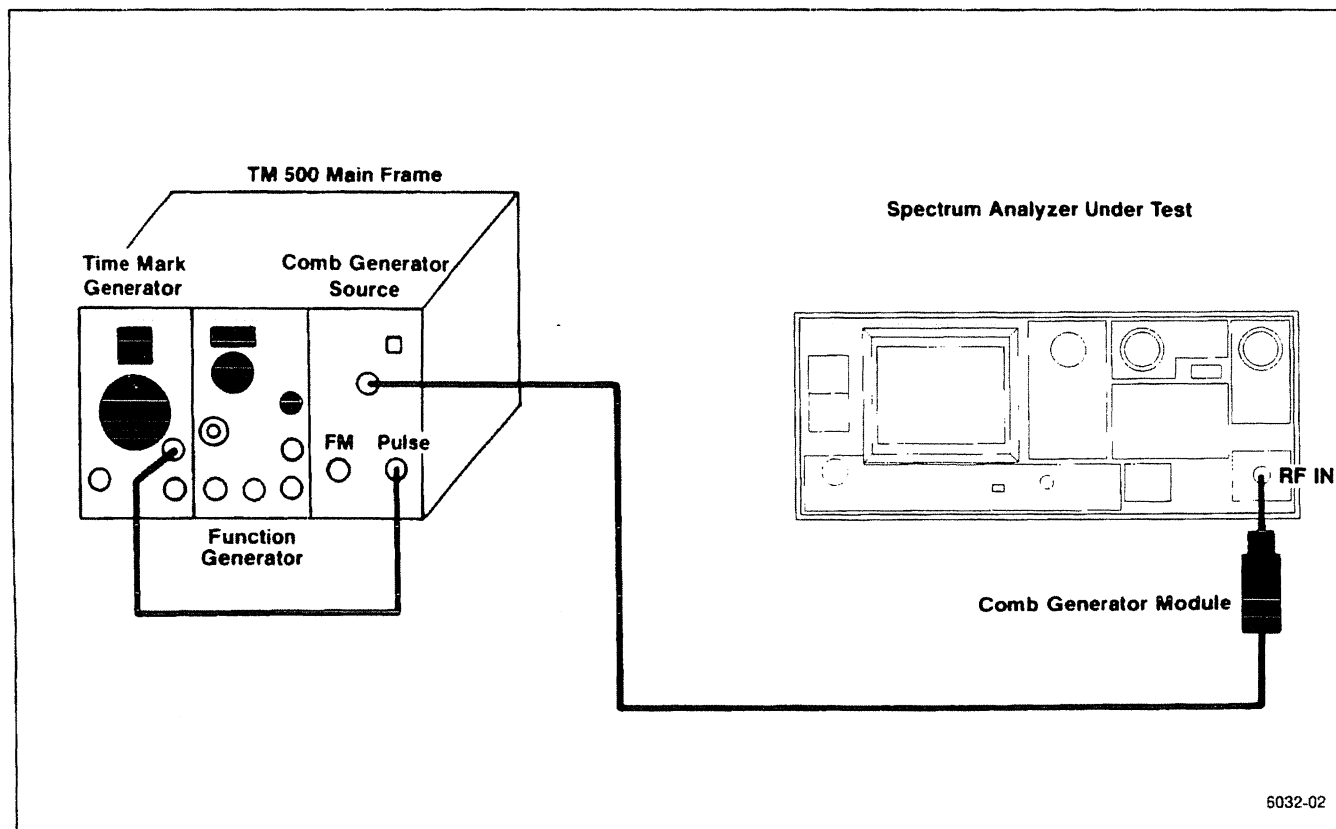

Figure 4-7. Test equipment setup for checking frequency Span/Div and sweep Time/Div accuracy.
c. Remove the CAL OUT signal from the RF INPUT and set up the test equipment as shown in Figure 4-7. Set the CENTER FREQUENCY to 10 GHz, SPAN/DIV to 500 MHz, RESOLUTION BANDWIDTH to AUTO, and REF LEVEL to -10 dBm. Peak the response with the MANUAL PEAK control and set REF LEVEL for the best
f. Modulate the Comb Generator signal with 10 μ s markers, from the Time Mark Generator, by applying the Marker Output to the Pulse Input of the Comb Generator as shown in Figure 4-7. Set the MANUAL PEAK control for optimum marker definition.